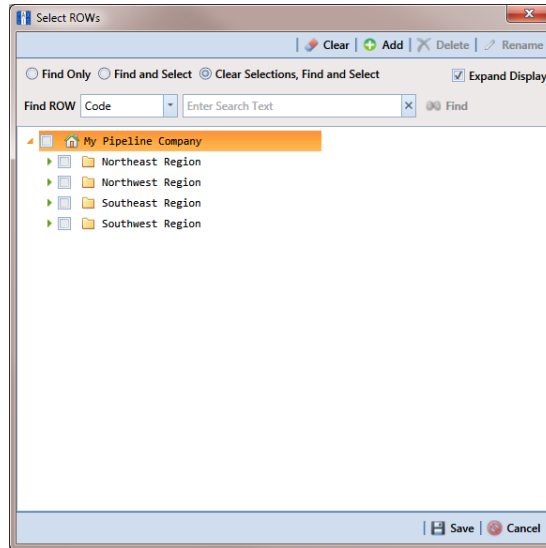

Figure 9-2. Select ROWs
- 1 Click the **Select ROWs** button  to open the *Select ROWs* window (Figure 9-2, page 418). Select one or more pipeline segments by clicking the check box for each pipeline segment. Click  **Save** to close the *Select ROWs* window.
- 1 Click the **Select ROWs** button  to open the *Select ROWs* window. Select one or more pipeline segments by clicking the check box for each pipeline segment (Figure 9-2, page 418). Click  **Save** to close the *Select ROWs* window.